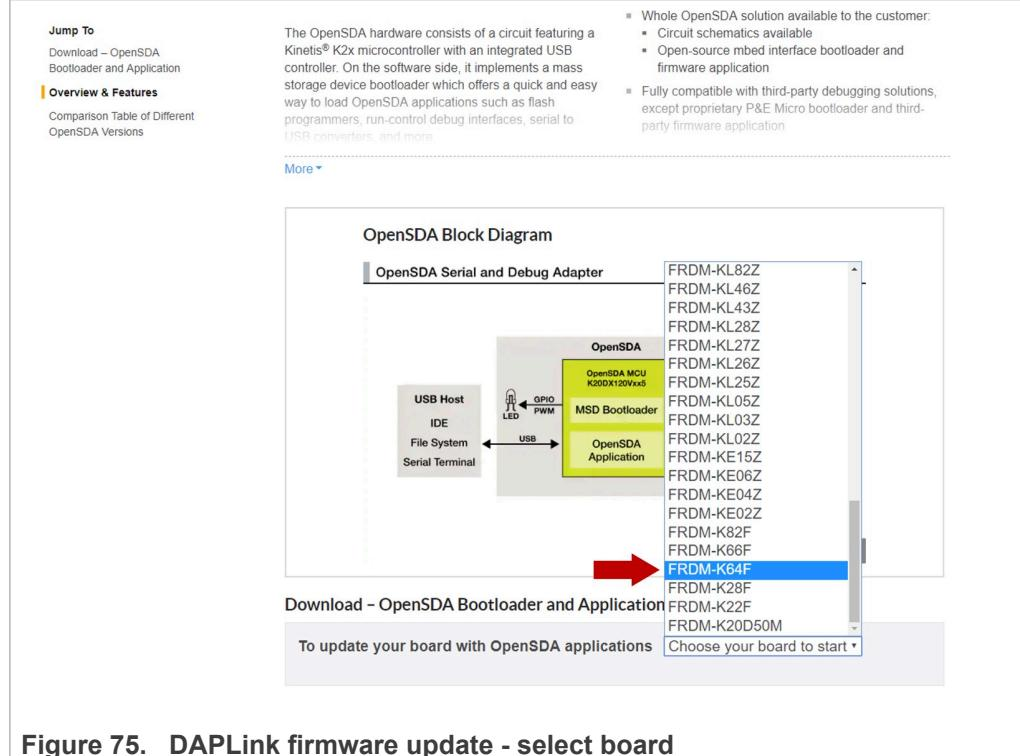

Figure 75. DAPLink firmware update - select board
2. Scroll down and select FRDM-K64F board from the ***Download - OpenSDA bootloader and application*** drop down list as indicated in Figure 75: